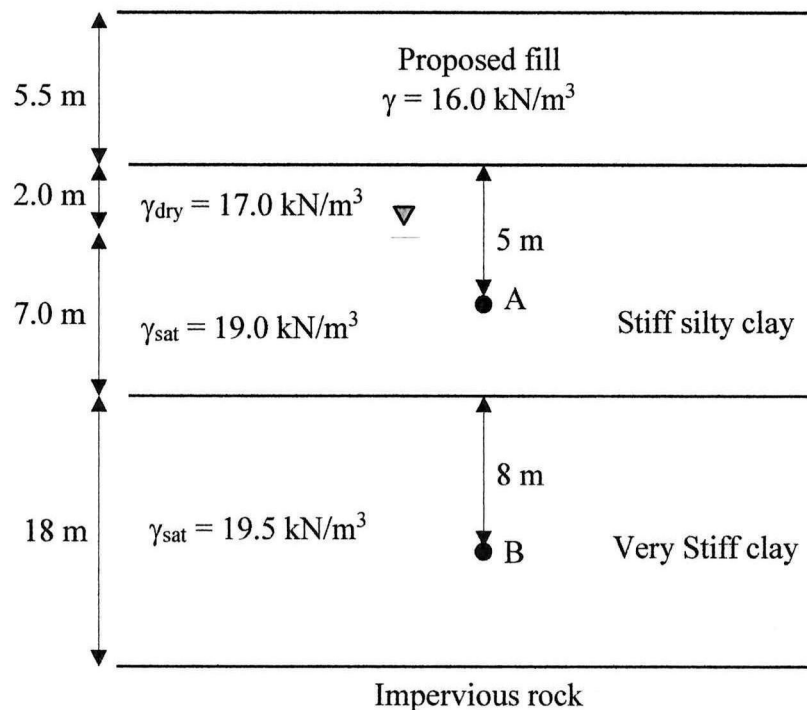

FIGURE Q3(b): Soil profile
- (iii) The shear modulus (K') and bulk modulus (G) (3 marks)
- (iv) The Poisson's ratio and Young's modulus (E) (3 marks)
- (b) A 5.5 m deep compacted fill is to be placed over the soil profile shown in **Figure Q3(b)**. A consolidation test on a sample from points A and B produce the results as depicted in **Table 1**. These points represent the entire soft clay stratum of each layer. Estimate the ultimate consolidation settlement due to the weight of this fill. (13 marks)